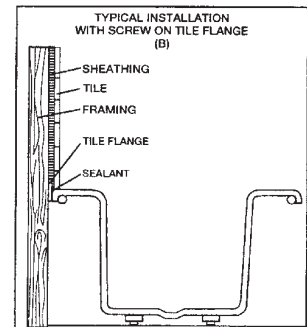

figure 5
4. For units equipped with the screw on tile flange, it is necessary to caulk between the flange and tub after attaching the flange to the framing. Allow the sealant to dry, then bring the sheathing over the flange. (figure 5)